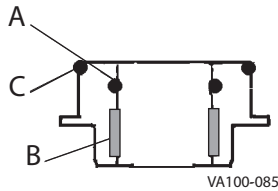

Figure 25 - Standard Lower Bearing Carrier
1. Remove and replace the o-ring (Figure 25, item A) located inside the lower bearing carrier. For the flush/steam barrier adapter, see Figure 4 on page 13.
2. Check the split bearing (Figure 25, item B) inside the lower bearing carrier by feeling the amount protruding from the lower bearing carrier wall. If the bearing is flush with the wall, replace the bearing.
7. To remove the outer o-ring (Figure 25, item C), slide or cut the o-ring off the lower bearing carrier. Do not nick or scratch the o-ring groove.